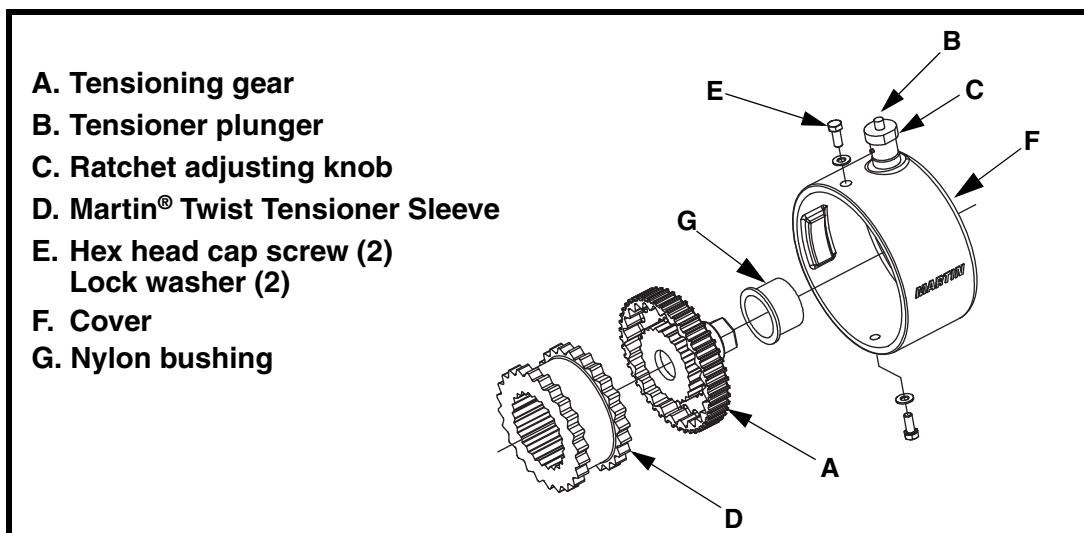

Figure 5. Maintaining Martin® Twist Tensioner
- a. With wrench, turn tensioning gear (A, Figure 5) to slightly tension and release tensioner plunger (B) from teeth. Then, while holding wrench tightly, pull out ratchet adjusting knob (C), turn it 180°, and release.
2. Remove old Martin® Twist Tensioner sleeve (D) as follows:
- a. Remove two cap screws and washers (E) from cover (F).
- b. Remove cover (F), nylon bushing (G), tensioning gear (A), and Martin® Twist Tensioner sleeve (D).